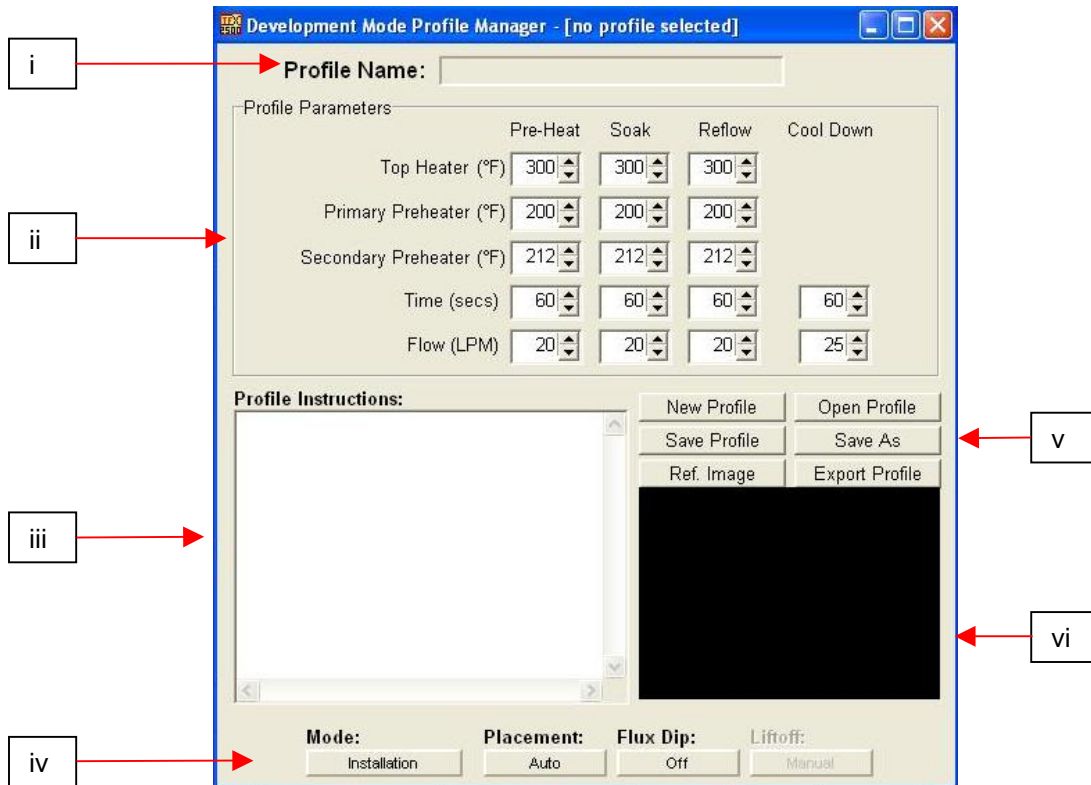

Figure 7a
- xi. Profile Manager. Temperature and time setting entered by the developer can be viewed here. (Fig. 7a)
## j. Development Mode Profile Manager Features (Figure 7a)